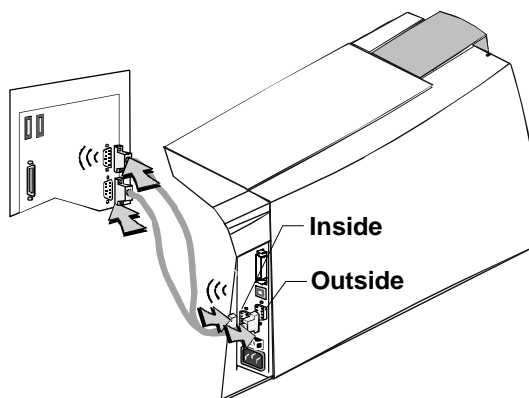

Figure 7-4: Connect the smart card serial cable
- 1 Connect the serial cable to the inside printer port (Figure 7-4) if a contact smart card module or a contact station is installed in the printer.
- 2 Connect the serial cable to the outside printer port (Figure 7-4) if a contactless (C) module is installed in the printer.